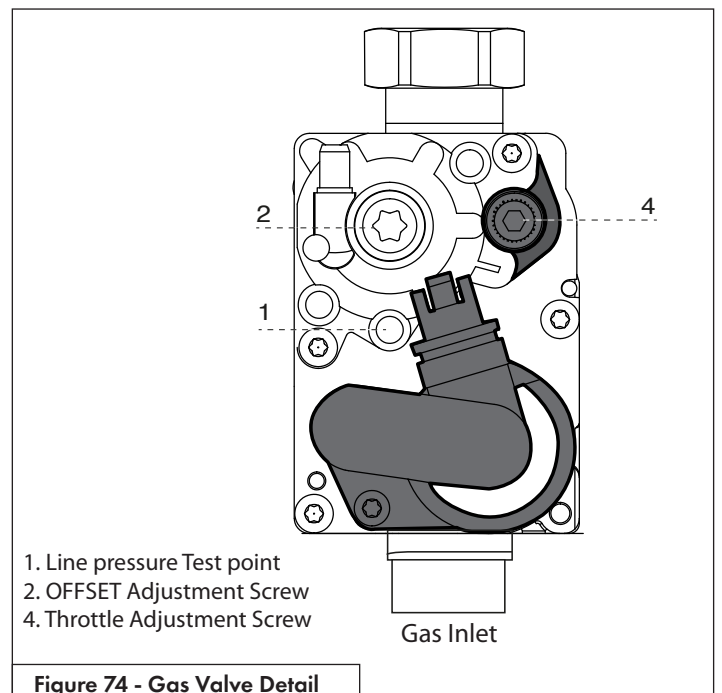

Figure 74 - Gas Valve Detail
NOTE: Refer to Figure 74 when checking gas pressure. Loosen the bolts before checking the gas inlet pressure.
1. Remove yellow cap from line pressure test point. See Figure 74.